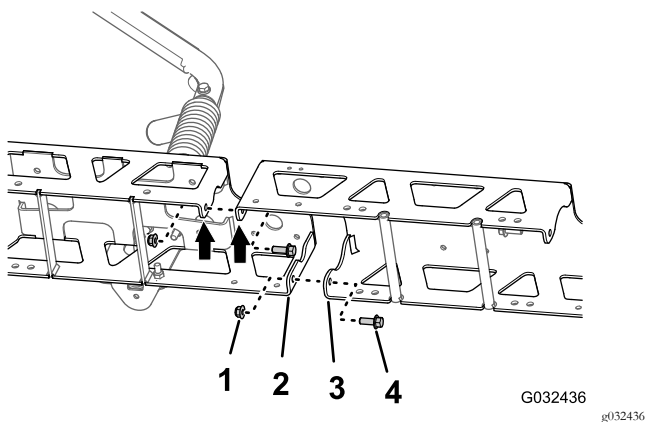

Figure 76
- Align the holes in vertical flanges of the center boom extension with the holes in the truss frame (Figure 76).
- Loosely assemble the center boom extension to the truss frame (Figure 76) with the 2 flange-head bolts (3/8 x 1 inch) and 2 flange locknuts (3/8 inch) that
- Align the holes in vertical flanges of the center boom extension with the holes in the other truss frame (Figure 76).
- Loosely assemble the center boom extension to the other truss frame (Figure 76) with the 2 flange-head bolts (3/8 x 1 inch) and 2 flange locknuts (3/8 inch) from the GeoLink spray system finishing kit (Figure 76).